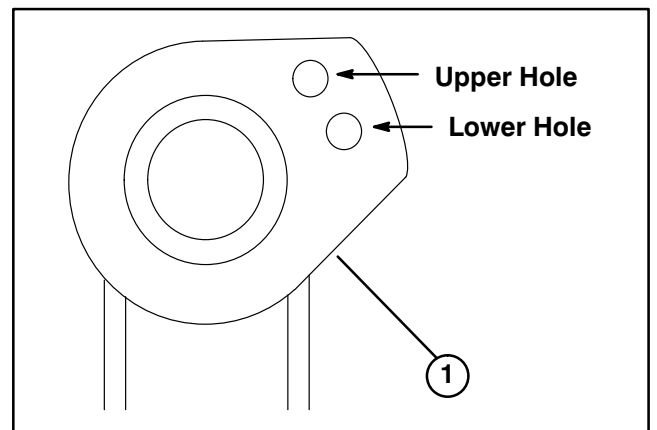

Figure 34
- Hook one end of spring into appropriate hole in cutting unit lift tab (Fig. 34) as follows: